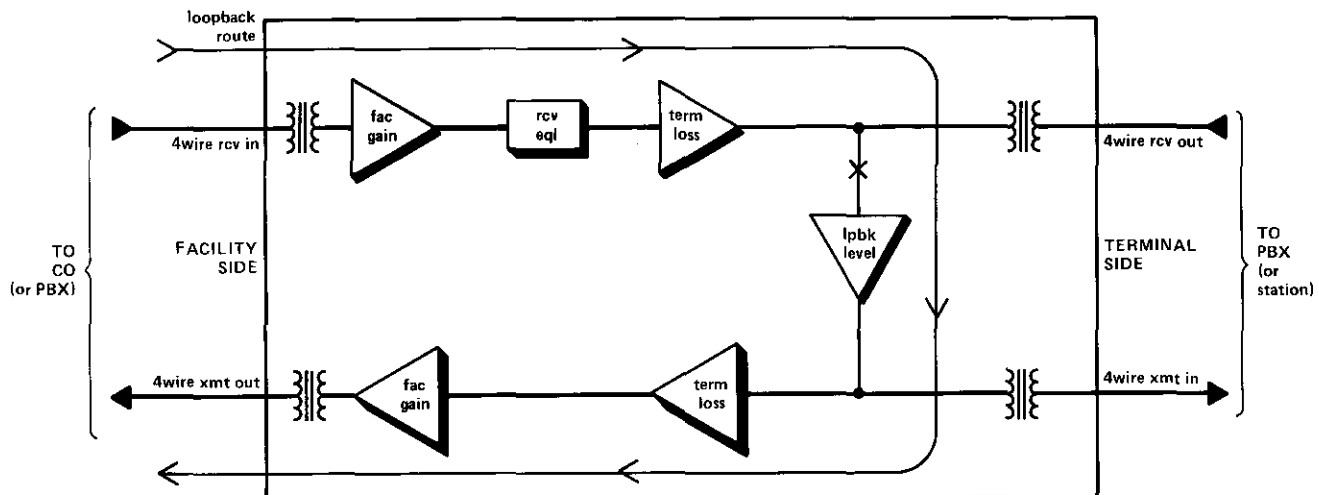

figure 8. Loopback route through 6047A
2.24 Integral facility-side loopback circuitry in the 6047A allows signals at the 4wire receive input port to be looped back to the 4wire transmit output port for testing of both the module and the facility. Figure 8 shows the loopback path through the module. Prescription loopback-level-control circuitry introduces from 0 to 23dB of gain or loss into the loop-back path in switch-selectable increments (23dB loss; 0.5, 1.5, 3, 6, and 12dB gain) to provide true equal-level loopback. A switch option busies out the terminal equipment during loopback, if desired, to prevent inadvertent seizure of the trunk circuit or line circuit. **This option can only be used, however, with A-side signaling and Type I E&M interface.** In such applications, the option busies out the terminal equipment by grounding the E lead.